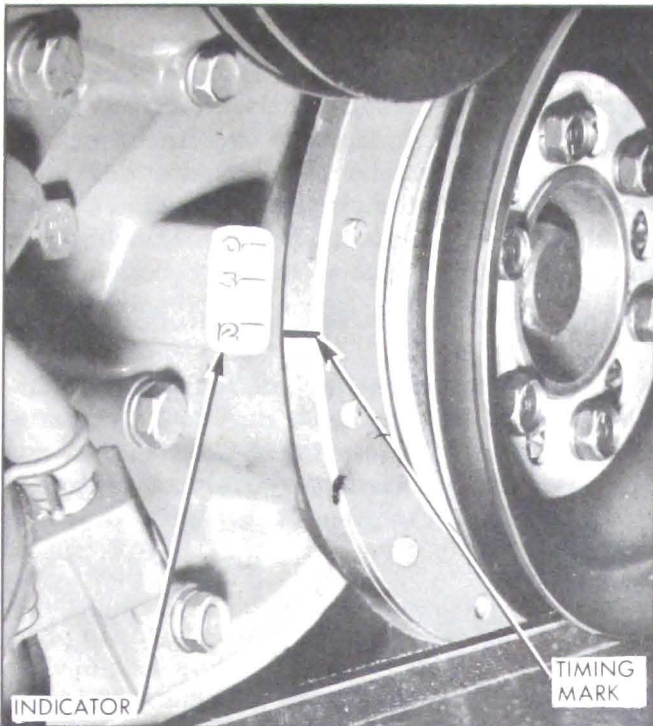

Figure 10-39—Ignition Timing Mark and Indicator
The timing mark is a groove filled with yellow paint, which is on the rear edge of the harmonic balancer. The timing indicator, a part of the timing chain cover, has three ridges outlined with yellow paint. These ridges indicate U.D.C. (marked "0"), "5" degrees, and "12" degrees before U.D.C. See Figure 10-39.
1. With right rocker arm cover removed, rotate crankshaft in a forward direction using a suitable wrench on the harmonic balancer to crankshaft bolt. Continue rotation until both valves for No. 1 cylinder are completely closed and the timing mark on balancer is aligned with the proper mark on timing indicator. See Figure 10-39. No. 1 cylinder is now in position to fire.
4. Direct beam of timing light on the timing indicator and edge of harmonic balancer. Turn distributor housing slowly until yellow mark on balancer lines up with the proper mark on the indicator, then tighten clamp bolt securely. See Figure 10-39.